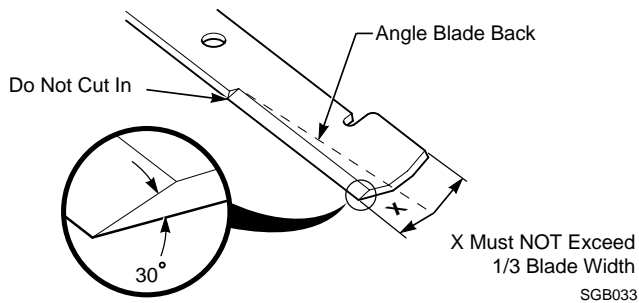

Figure 7-6. Blade Sharpening
DO NOT sharpen the blades beyond 1/3 of the width of the blade. See Figure 7-6.
1. Sharpen the cutting edge at the same bevel as the original. Sharpen only the top of the cutting edge to maintain sharpness. See Figure 7-6.